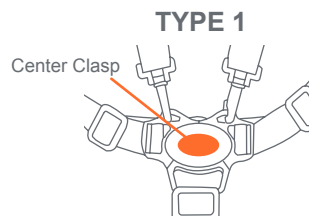

Fig. 15
- 15)** • To release, push Button on Center Clasp, the two Harness Buckles will pop free (Fig. 15).